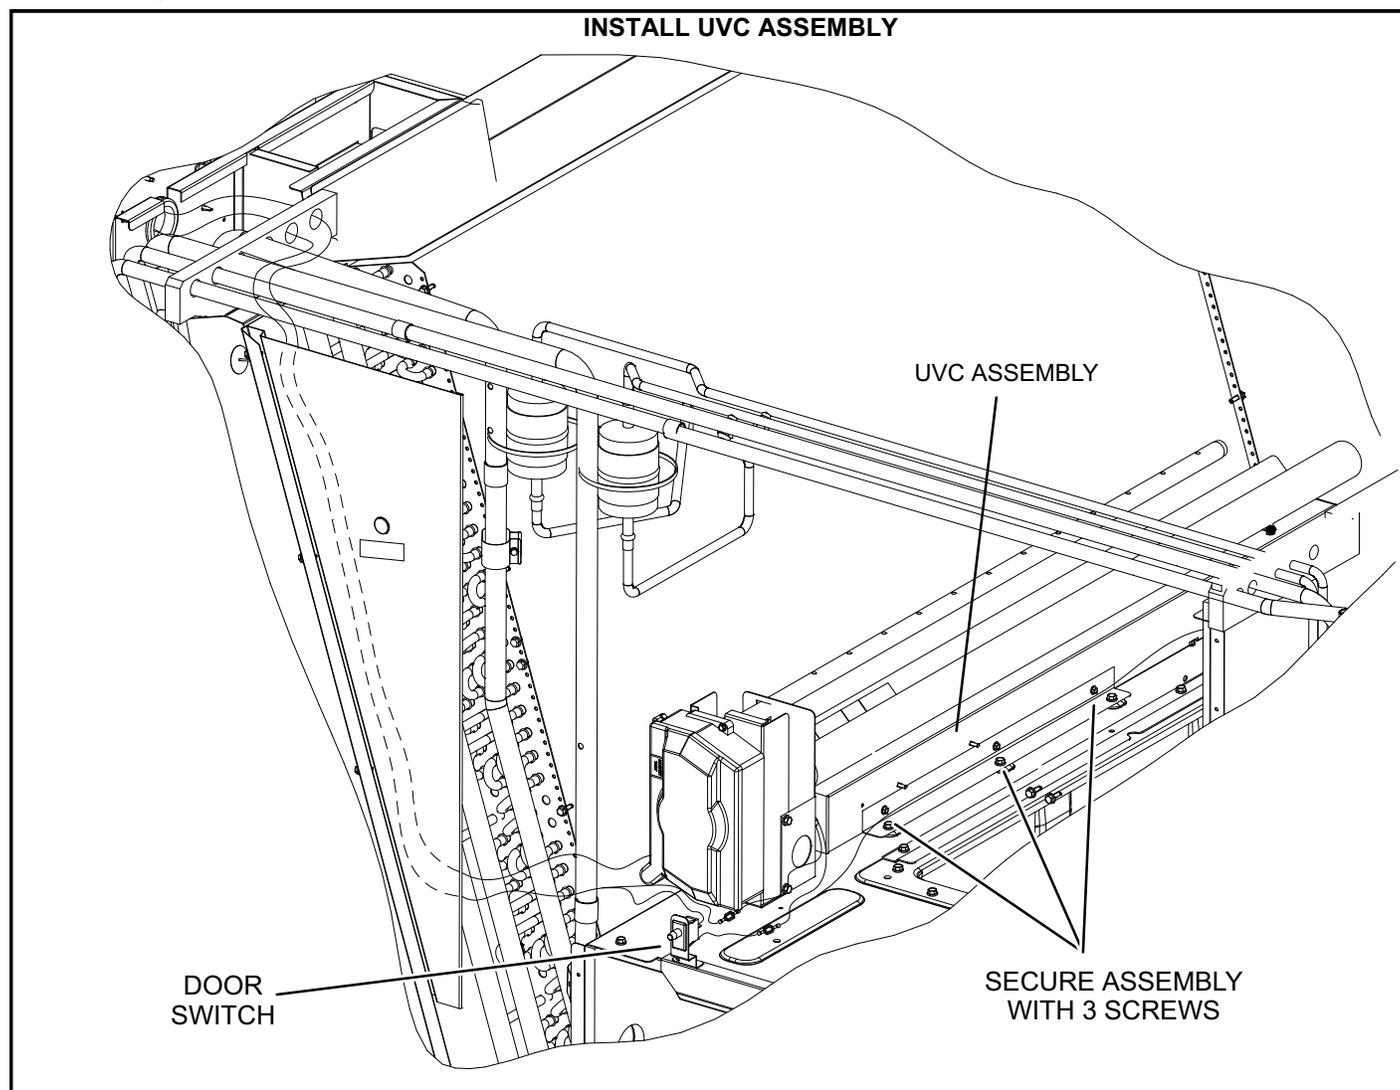

FIGURE 2
- 3- Carefully place the UVC assembly on the blower deck. Line up the mounting holes on the UVC assembly with the mounting holes on the blower deck. See figure 2. Use the #10 screws provided to secure the UVC assembly in place.
Install bracket and switch on front of blower deck as shown in figure 2. Wire as shown in figure 3.